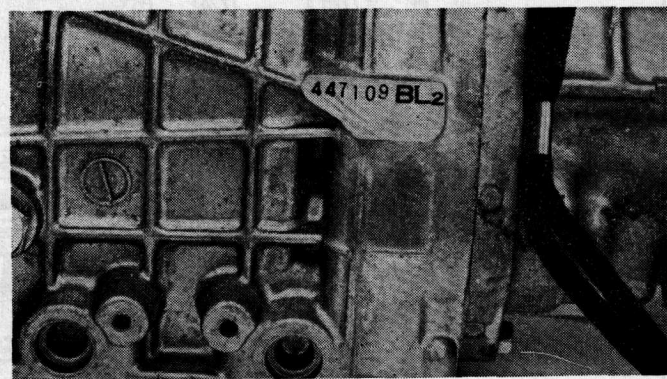

Fig. 4 Transmission Serial Number
(3) The transmission serial number is stamped on the left-hand side of the transmission case. (Fig. 4)